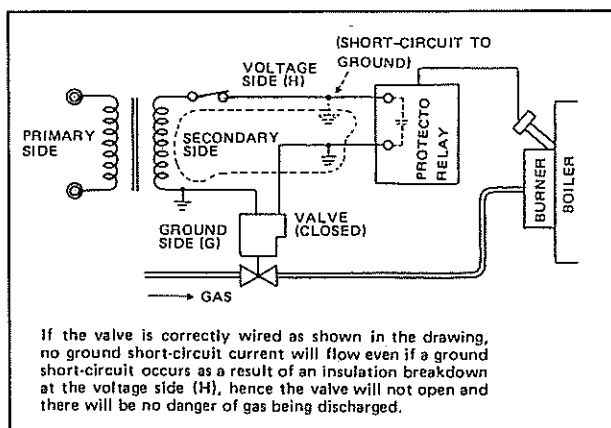
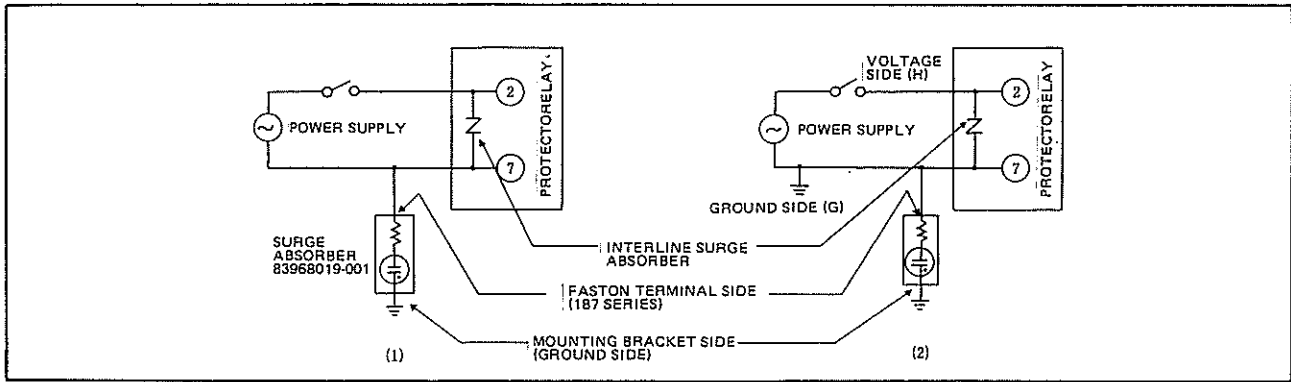

Fig. 4 Wiring between power supply and valve (when main supply has voltage and ground side)
Fig. 6 Wiring of surge absorber
- (2) When the power source has a voltage side (H) and a ground side (G), connect the voltage side to terminal ② and the ground side to terminal ⑦. Wire the valve while referring to Fig. 4.
- (3) Because the relay is installed using a plug-in method, be careful that the wiring does not interfere with the installation of the relay.
- (4) Check to ensure that there is no incorrect wiring, then plug the relay into the subbase, and tighten the cover retaining screw.
- (5) When using a surge absorber, connect a wire between terminal ⑦ and ground, as shown in Fig. 6 (1) and (2). Because the mounting bracket of the surge absorber is crimped with the ground side of surge absorber internally to provide electrical continuity, the surge absorber can be grounded by simply installing it on a grounded metal portion, such as the boiler, etc. Also, use wire of at least 0.75 mm2 of JIS C 3306 (wire diameter 0.18 mm, number of strands 30) for connecting the surge absorber to the power supply. Fit a #187 faston receptacle at one end and keep the length of the wire as short as possible.